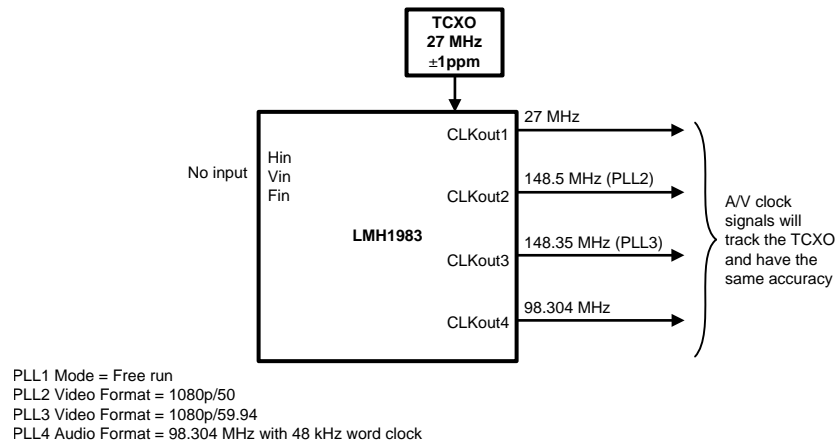

Figure 30. High-Precision, Stable A/V Clock Generation Using a 27 MHz TCXO Reference
Table 12. Auto-Format Detection Output Codes for Figure 30
To ensure correct auto-detection and the correct CLKout signaling desired in Figure 30, the following SMBus register values should be verified or changed from their default values.
**Table 13. SMBus Register Settings for Figure 30**